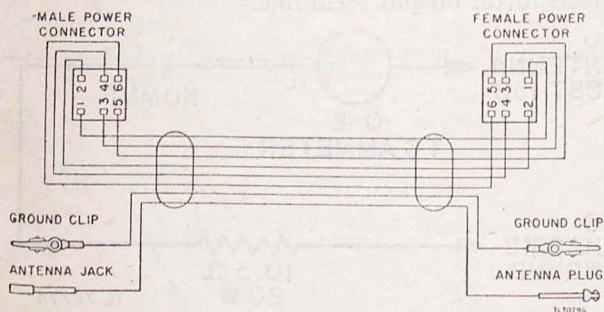

Figure 13. Circuit test table for receiver, of Radio Receiver and Transmitter BC-1306.
c. CABLE CONTINUITY CHECKS. Referring to figures 13, 14 and 15, and case wiring diagram, figure 16, check all cables for continuity, short circuits, and grounds.
a. PREPARATION. (1) Connect receiver to power plug, antenna plug, and ground plug by means of circuit test cable. (See fig. 13.)
(2) Connect a 4,000-ohm output meter to a phone plug and insert it into one of the PHONE jacks; plug the headset into the other PHONE jack.
(3) Supply power to the set with Battery BA-48 by inserting the male plug of Cord CD-1119 into the receptacle on the battery and the female plug of Cord CD-1119 into the battery receptacle 145 on the transmitter, screwing the retaining ring up tight.